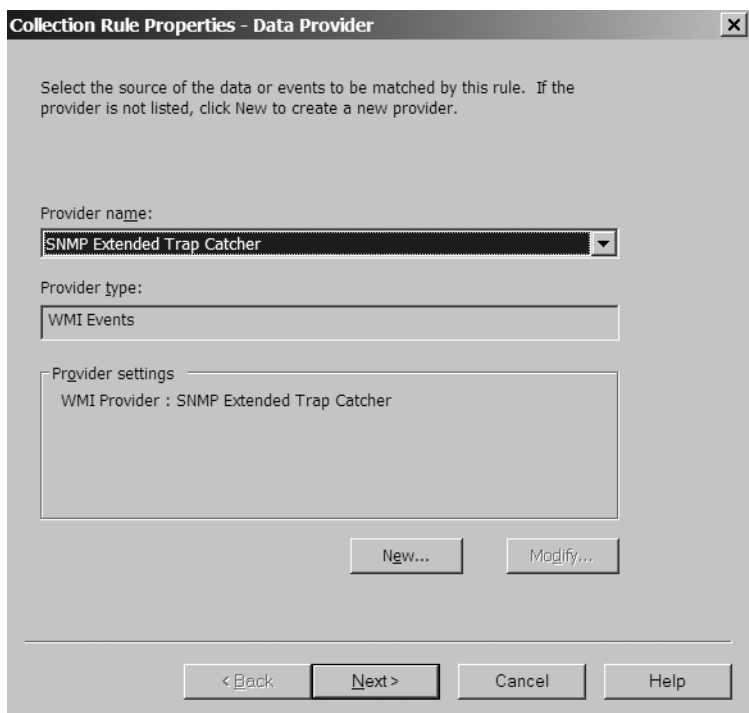

Figure 3-5. *Selecting the provider name*
3. In the Collection Rule Properties - Data Provider window, select SNMP Extended Trap Catcher as the provider, and then click Next. This is shown in Figure 3-5.